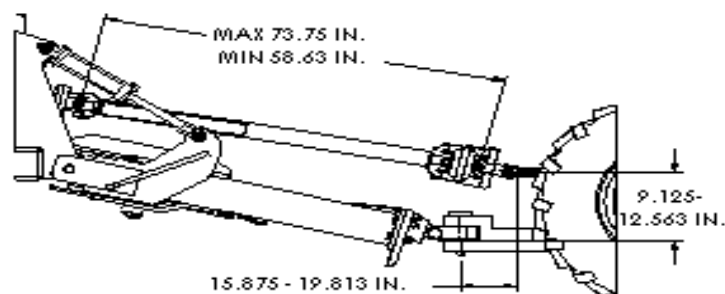

Figure 6: Drawbar Range
4.1.1 Adjusting the Drawbar: The tractor drawbar must be set within the given range to maintain the integrity of the drive system. The range is shown in Figure 6.